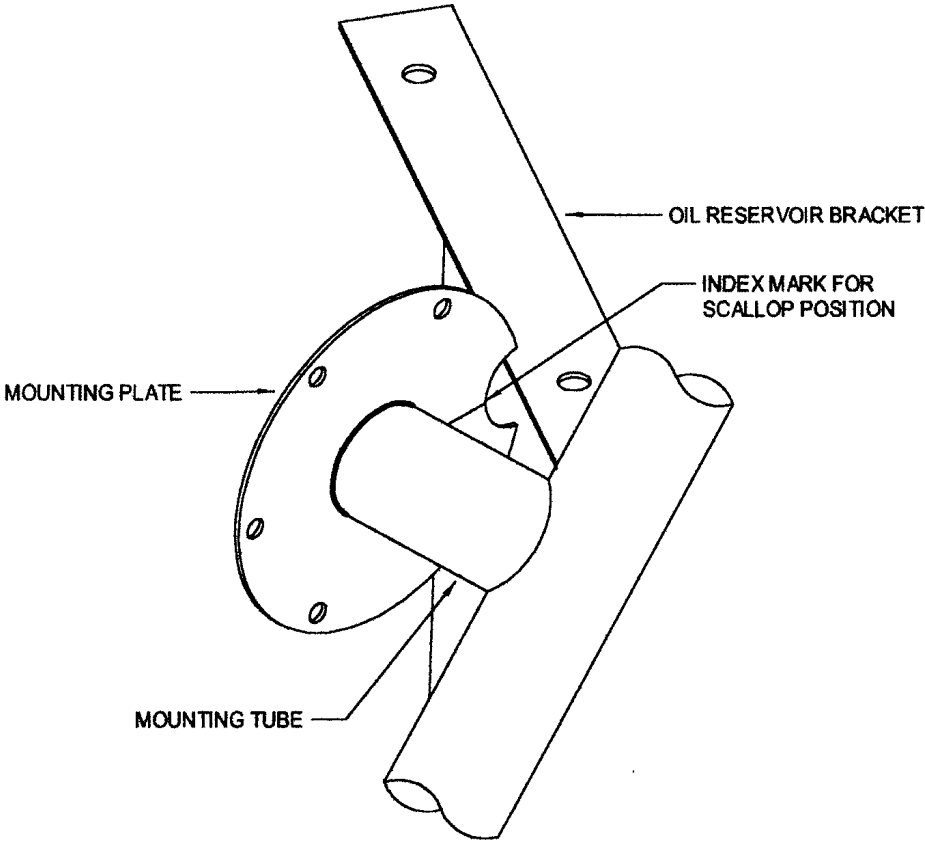
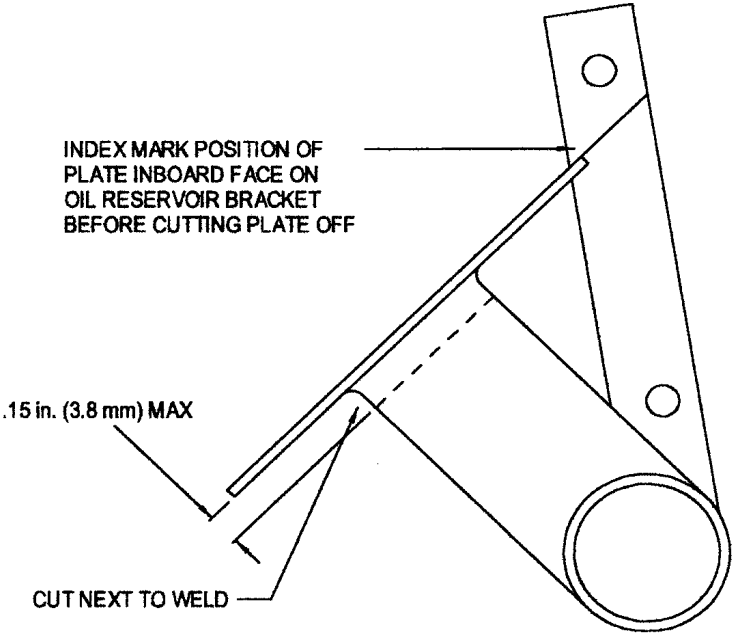
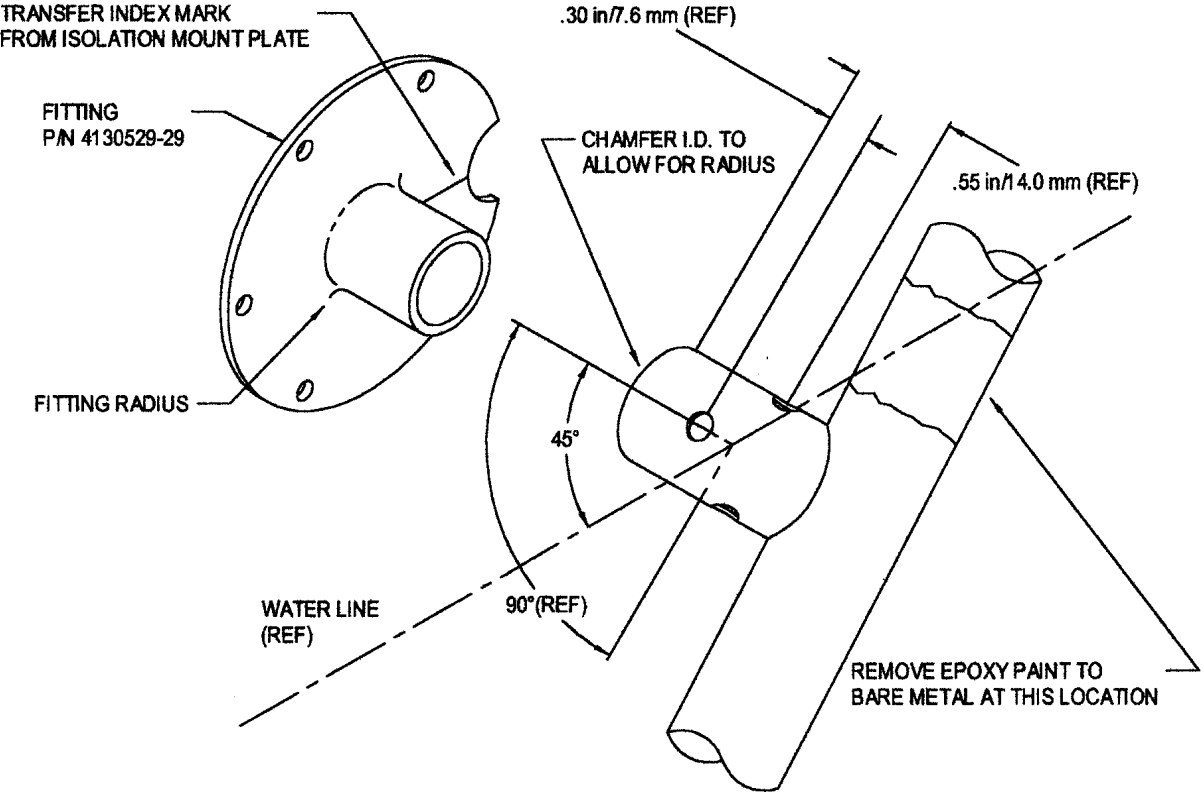

FIGURE A1
FIGURE A2
FIGURE A3
4. Pre-mark the butt line location of the isolation mount flange on the oil reservoir support bracket prior to cutting off the isolation mount flange (see Figure A2). Also mark the position of the scallop at the top surface of the oil reservoir support bracket (see Figure A1).
5. Cut off the isolation mount flange at the edge of the weld (see Figure A2).
6. Drill four #12 (4.8 mm) holes in the mounting tube at 45E to the water line (see Figure A3). Drill one pair of holes approximately .3 in. (7.6 mm) from the end of the mounting tube. Drill the other set of holes .55 in. (14.0 mm) from the end of the mounting tube.
7. Remove the epoxy paint finish from the pylon in the area shown in Figure A3 for a welder ground and around the holes for the rosette welds.
8. Index mark the scallop of the replacement fitting in the same location as the index mark on the scallop of the flange (see Figure A3). Insert the replacement fitting, P/N 4130529-29, into the stub pylon tube. Locate the position of the fitting by aligning the inboard side of the fitting with the index mark on the oil reservoir support bracket (see Figure A2) and aligning the scallop index mark with the top surface of the oil reservoir support bracket (see Figure A1).
Engine damage may occur when making a weld repair to the pylon using electric TIG welding if the TIG welder is not properly grounded. Never attach the TIG welder ground to the engine. The ground must be attached to a clean bare pylon tube as close to the weld as possible (See Figure A3). Use a C-clamp or other clamping device to ensure that the ground does not come off the pylon while welding on the pylon with the engine installed.